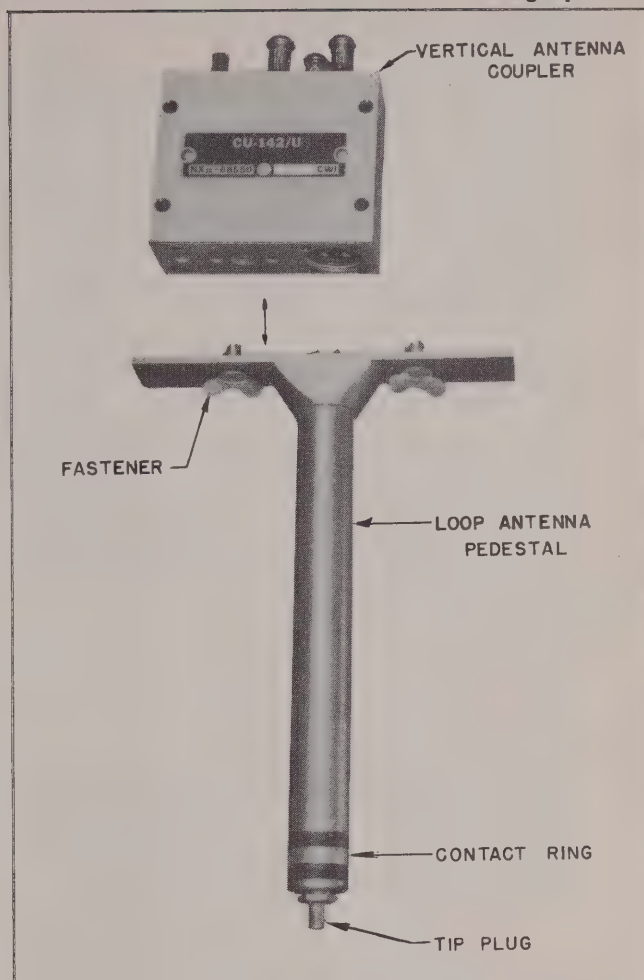

Figure 4-4. Alignment View, Antenna Coupler CU-142/U or CU-155/UP and Pedestal
g. Plug the Antenna Coupler in place of the Loop Antenna on the pedestal and lock it in place with the wing-type finger-operated fasteners. (See figure 4-4.)